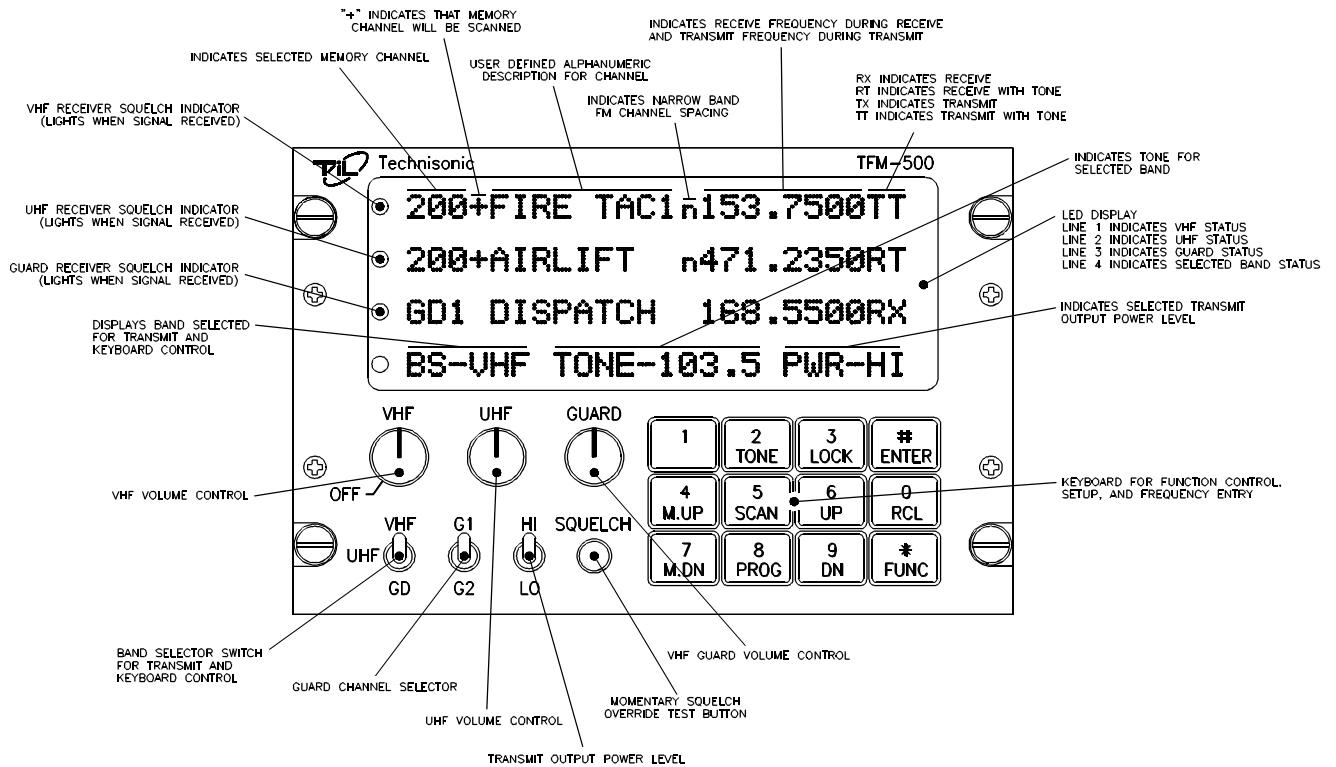

FIGURE 2-1 Operator's Switches and Controls
2.2 OPERATING INSTRUCTIONS (See Figure 2-1)